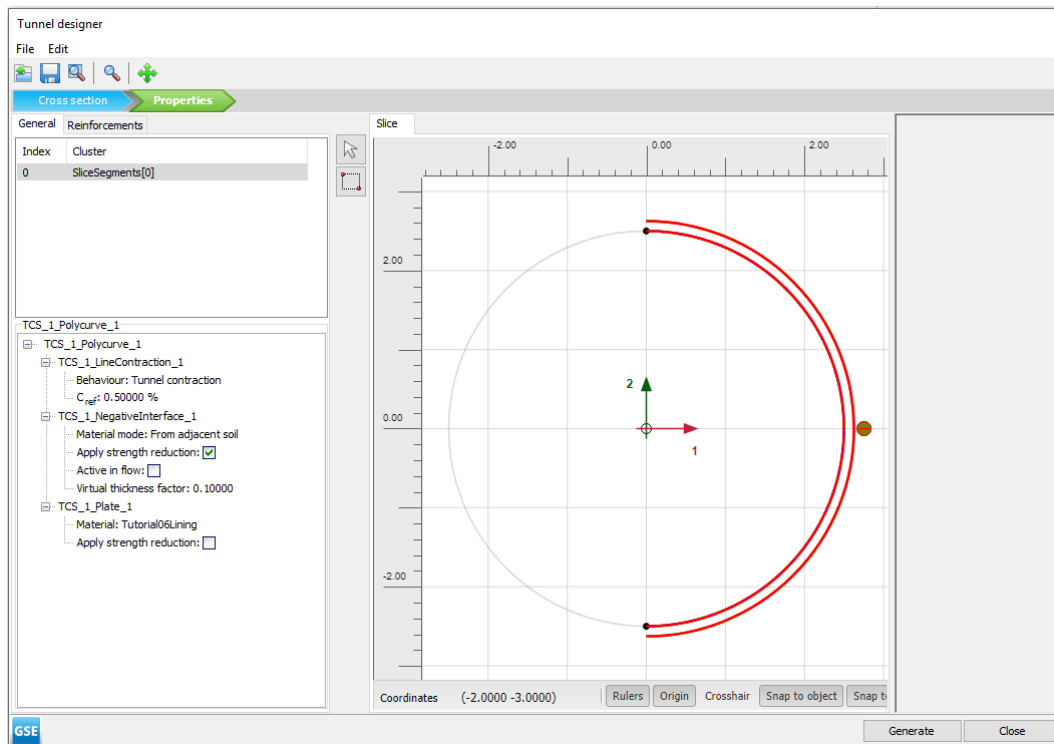

Figure 60: Tunnel model in the **Properties** tab
11. Right-click the segment in the display area and select the **Create line contraction** option in the appearing menu. In the polycurve properties specify a value of 0.5% for C_{ref} . The tunnel model is shown in Figure 60 (on page 80).